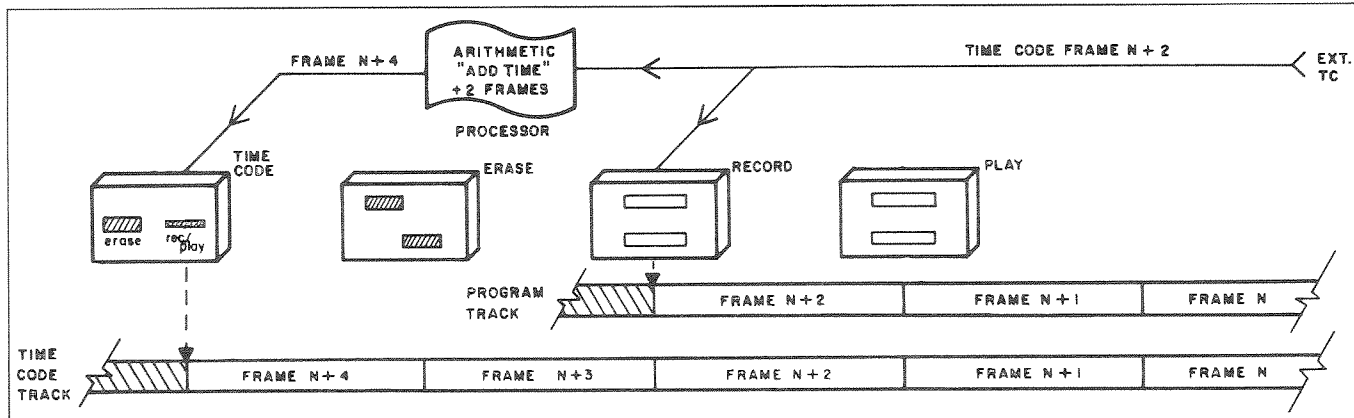

Figure 1-1. Time Code Longitudinal Offset (Recording)
**NOTE:** The longitudinal offsets illustrated in Figures 1-1, 1-2 and 1-3 are shown for explanatory purposes only. The actual offsets used in the APR-5003 do not fall on these specific frame boundaries.
Figure 1-1 is a conceptual illustration of the physical arrangement of the various heads, together with the program and Time Code tape tracks. As Time Code frame N+2 arrives at the Time Code input, it is passed directly to the record head and recorded on the program track. At the same time, Time Code frame N+2 is passed through the processor and advanced by two frames, thereby producing future Time Code frame N+4. This signal is impressed upon the Time Code record head and recorded on the Time Code track.